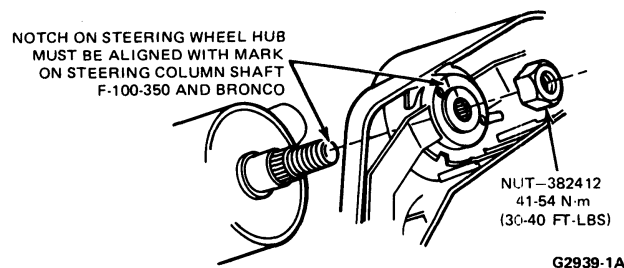

FIG. 4 Steering Wheel Installation
2. Check to see that the mark on the steering shaft and the mark on the wheel hub are aligned (Fig. 4).
1. Place the steering wheel on the steering column upper shaft, so that the mark on the wheel is in line with the mark on the shaft. Be sure the front wheels are straight ahead when the steering wheel is in the normal position (Fig. 4).